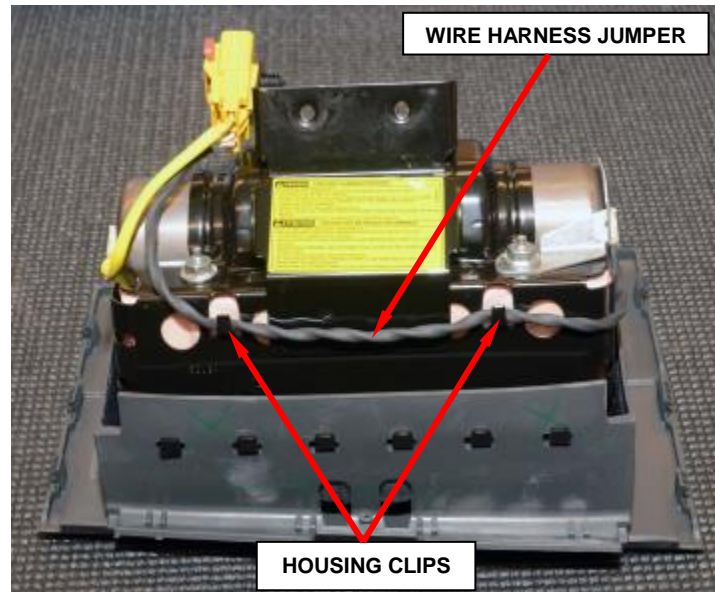

Figure 92 – Passenger Airbag Assembly
- b. Disengage the wire harness jumper from the housing clips in two places (Figure 92).
- l. Engage the wire harness jumper under the housing clips in two places (Figure 92).